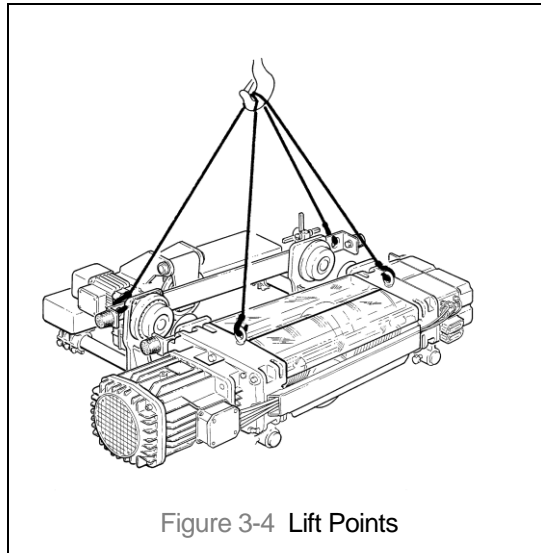

Figure 3-4 Lift Points
- 3.2.2 Lift points – The Advantage trolley hoists are equipped with lifting lugs to facilitate lifting the trolley hoist with a hoist or crane (see Figure 3-4). During lifting do NOT support the trolley hoist any other way.